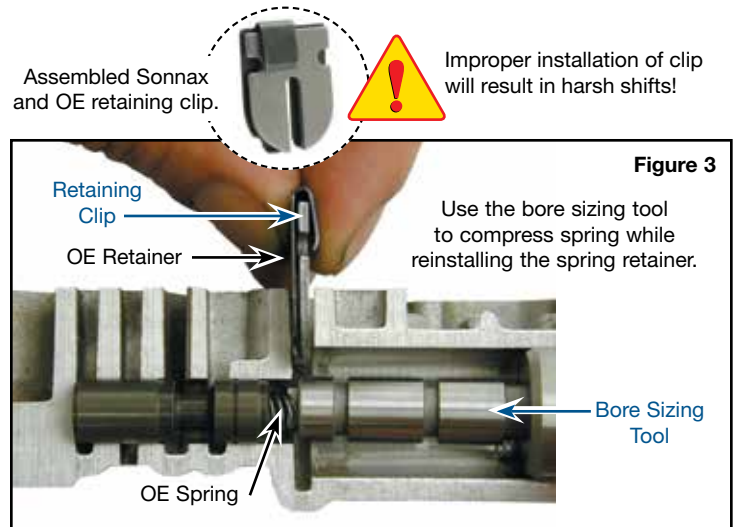

Figure 3
- b. Place the OE accumulator control valve spring into pocket on Sonnax valve and install both the OE and Sonnax retaining clips. Sonnax bore sizing tool **36948-12** can be used to compress this spring (**Figure 3**).